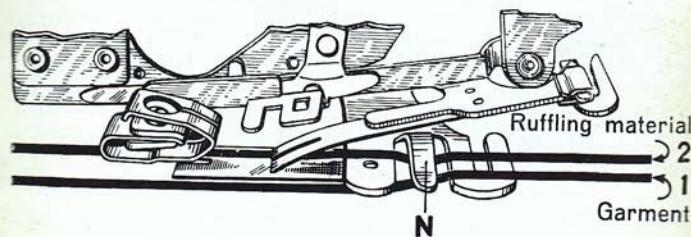

Fig. 54
- 1) Insert material to be ruffled between the two blue blades and under the separator guide « N » (LINE 2, Fig. 54).
- 2) Place material (garment, etc.) to which ruffle is to be attached under separator blade « K » and under separator guide « N » (LINE 1, Fig. 54).